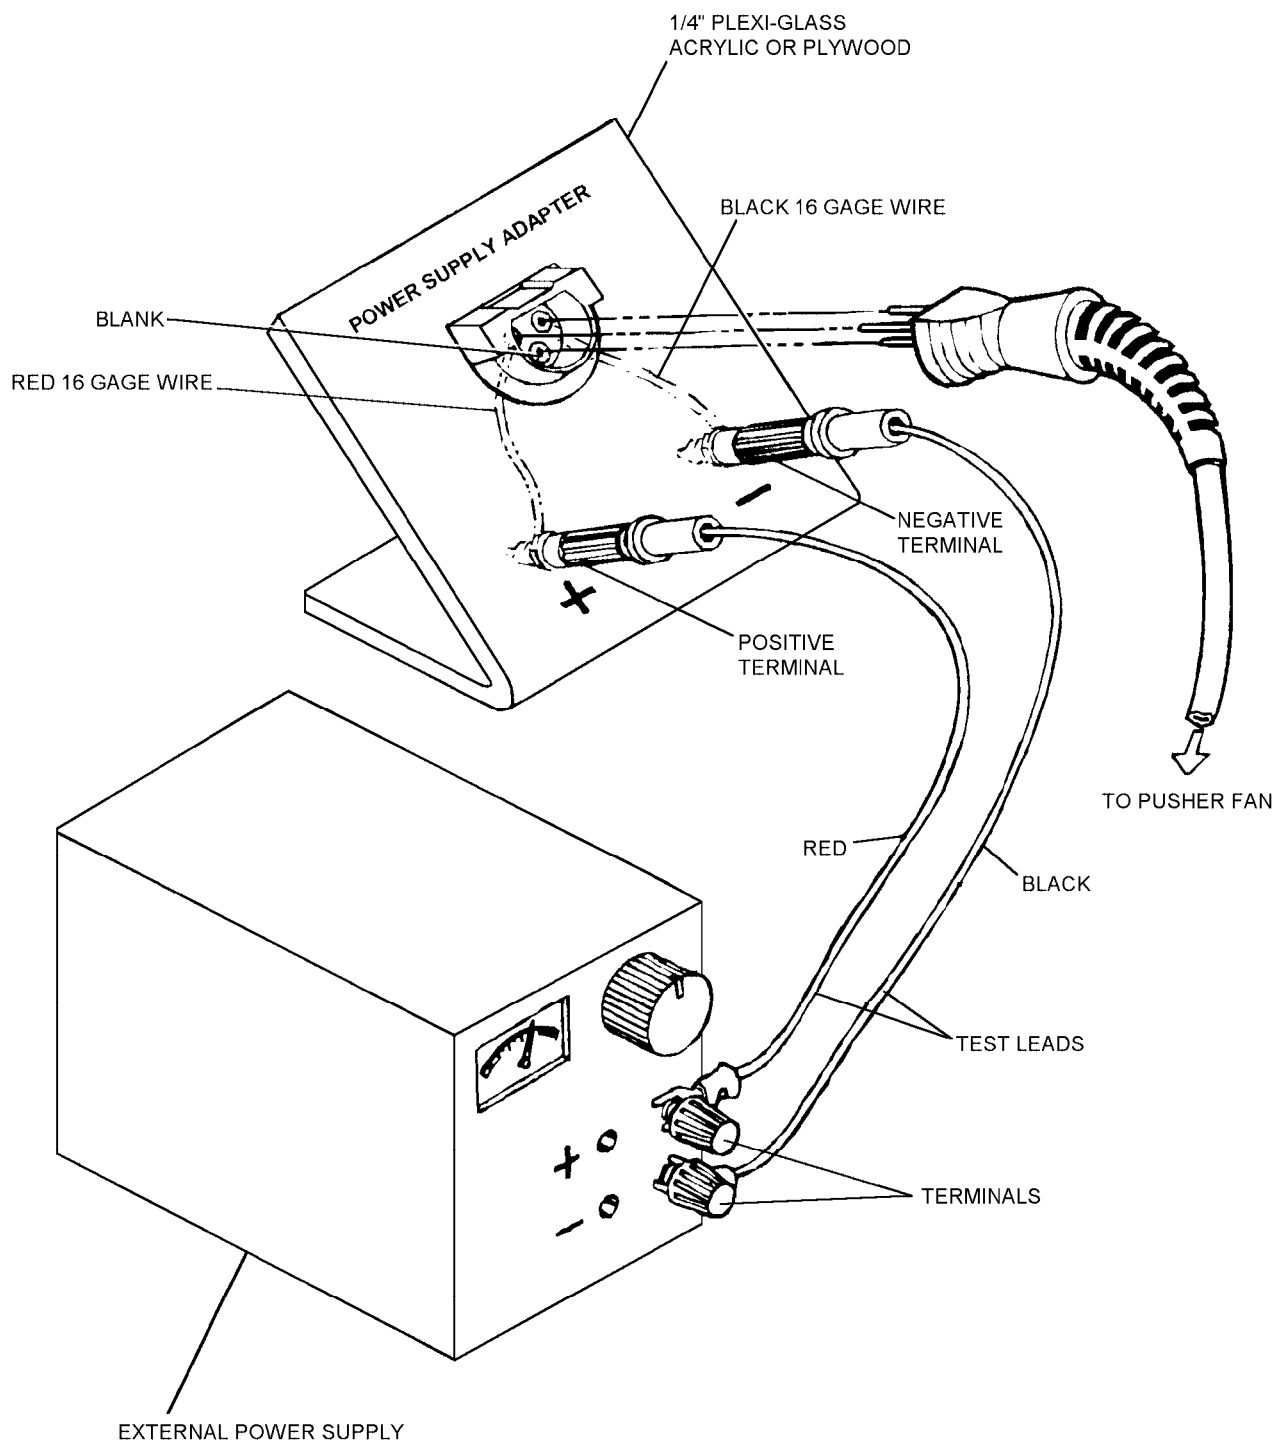
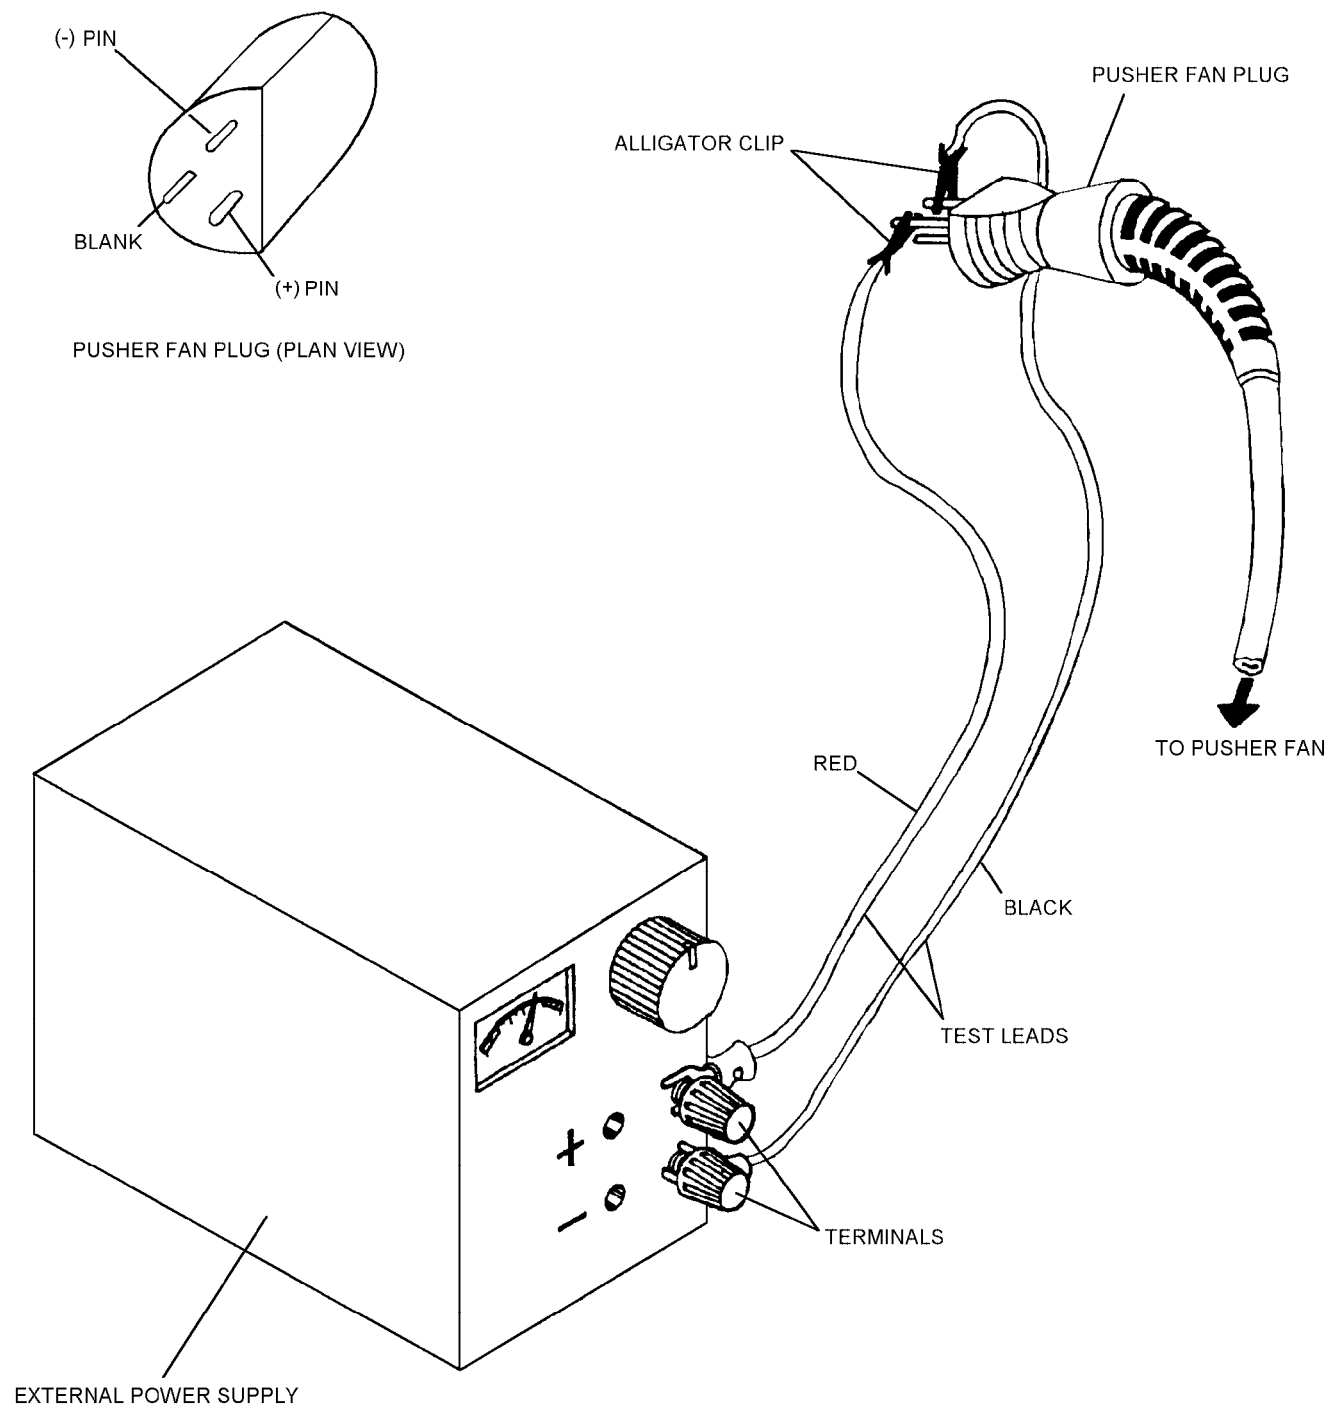

Figure 4-74. Pusher Fan Pressure Test Using Power Supply Adapter (P/N 3297AS623-1)
Figure 4-75. Pusher Fan Pressure Test Using Direct Wiring
A power supply adapter, P/N 3297AS623-1, (figure 4-74) is recommended for use during all tests requiring a Pusher Fan. If the power supply adapter is not available, the pusher fan can be wired directly to the external power supply (figure 4-75).
6. If not using power supply adapter, connect test leads to pins of pusher fan plug as shown in figure 4-75. If a dc power supply is not available, connect battery to pusher fan plug.